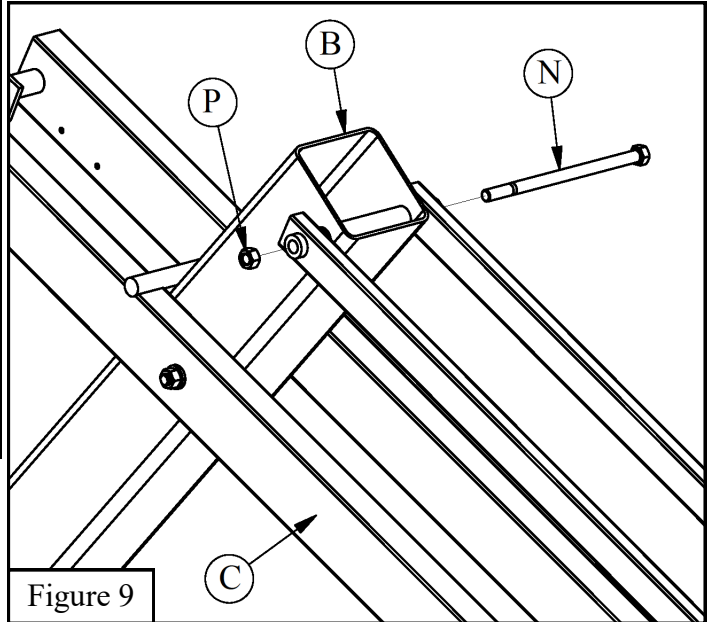

Figure 9
10. Attach *Upper Arms* (D) to the *Pole* (B) using a $5/8'' \times 11''$ Hex Bolt (N) and $5/8''$ Lock Nut (P). Tighten hardware then back off $1/2$ turn. This is a pivot point, do not over tighten. See Figure 9.